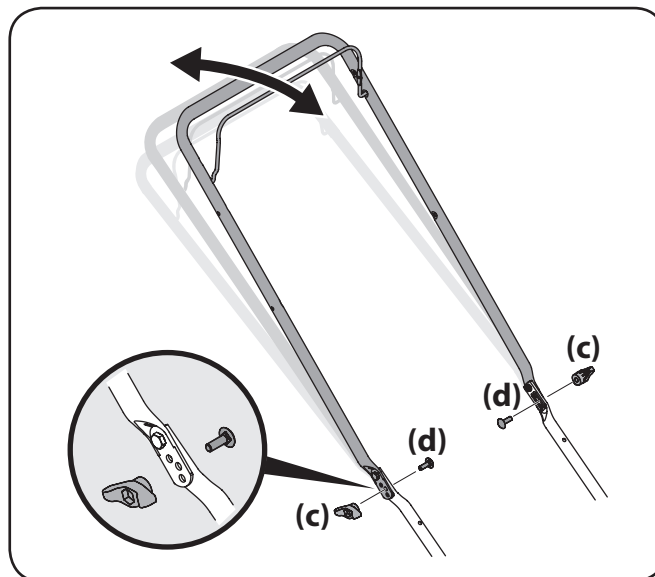

Figure 3-11
1. Remove wing knobs (c) and carriage bolts (d) from handle. See Figure 3-11.
2. Position the handle in one of the three positions that is most comfortable. See Figure 3-11 inset.